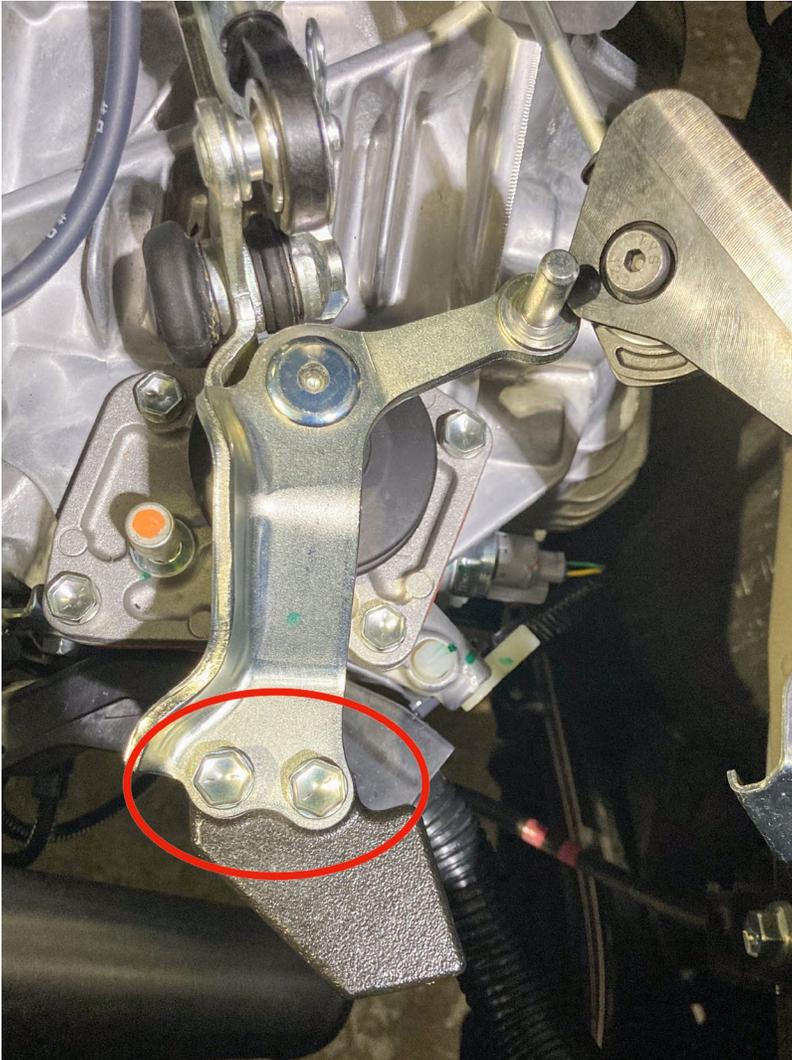

Figure 12
9. Place the short shifter to the side and remove the counter weight at the base of the bell crank using a 12 mm socket. (Fig 12)